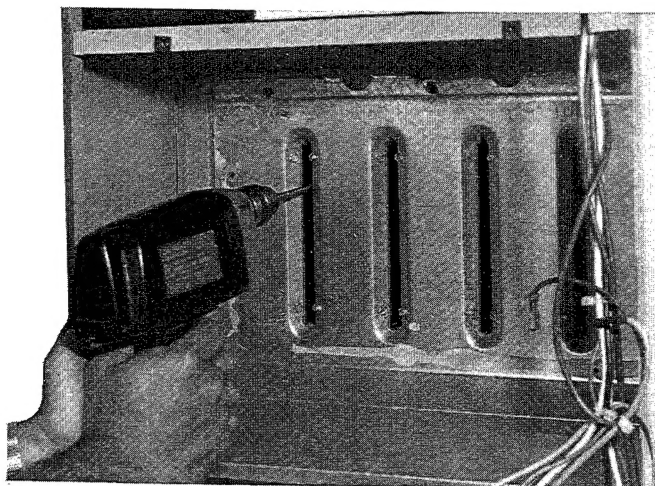

Figure 18—Cleaning Heat Exchanger Cell
- (2.) Insert brush end of cable into upper opening of cell and slowly rotate with drill. *Do not* force cable. Gradually insert at least 3 feet of cable into two upper passes of cell. See Figure 18.